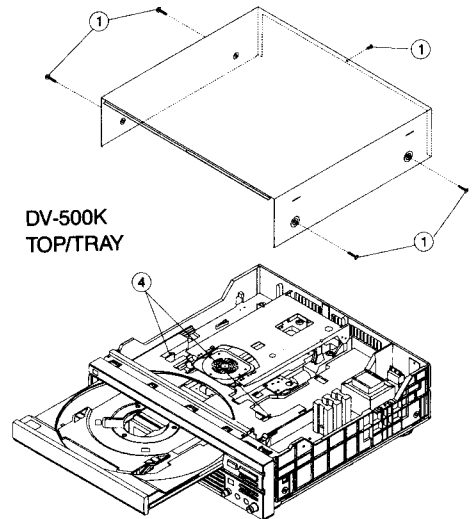

Figure 1.
- (1) Remove Cabinet-Top.
- (2) Position tray out halfway. (Figure 1)
- (3) Pull Hooks ④ by the side and take the tray completely out. (Figure 1)